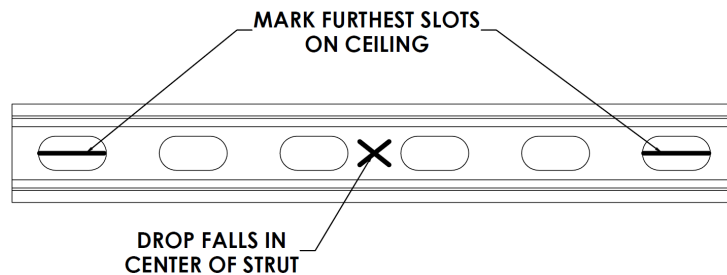

Figure 250: **Mark the End Slots of the Strut on the Concrete Slab**
6. Using a marker, mark the end slots of the strut on the concrete slab (Figure 250).